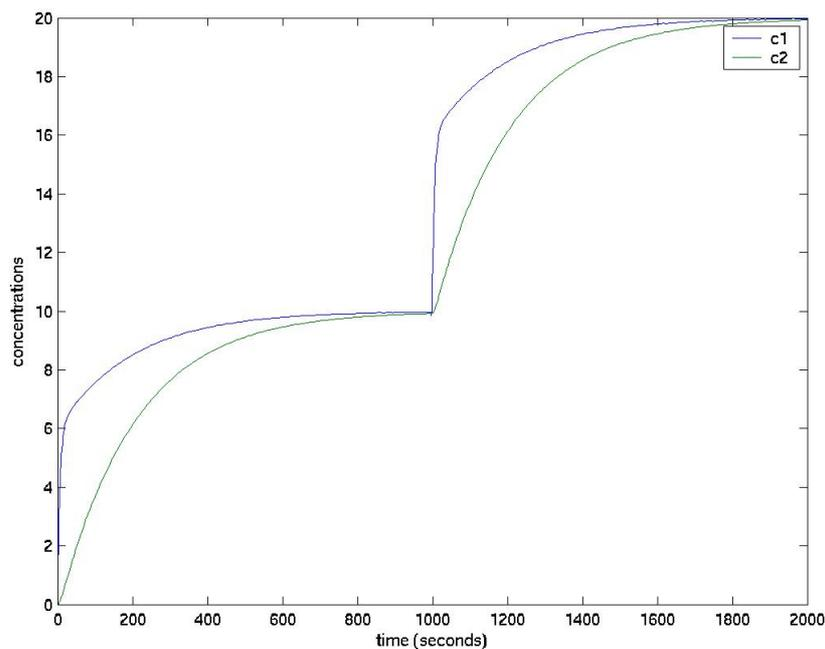

Figure 2. Simulation results.
The influent flow rate is q_0 with the concentration c_{in} . The concentrations in the tanks (that are completely mixed) are c_1 and c_2 respectively. There is a recycle flow q_3 , and the flow rate is expressed as a fraction r of the feed rate q_0 , i.e. $q_3 = r \cdot q_0$. The volumes of the tanks are V_1 and V_2 respectively. With $V_1 = 10$, $V_2 = 200$, $r = 0.6$ and $q_0 = 1$. The simulation results are shown in Figure 2. The simulation period is 2000 seconds, the influent concentration, c_{in} , is first 10 and when $t > 1000$, c_{in} is 20. Initial conditions [0 0].
- 2.2 Simulate the model for 2000 seconds and plot the result. Let the initial tank concentrations be zero for both tanks. Make sure you obtain the same result as depicted in Figure 2.